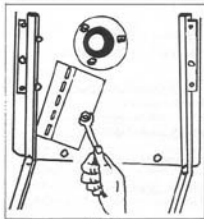

Fig. 4
- Remove whiz nut from knife access door as shown in Figure 4